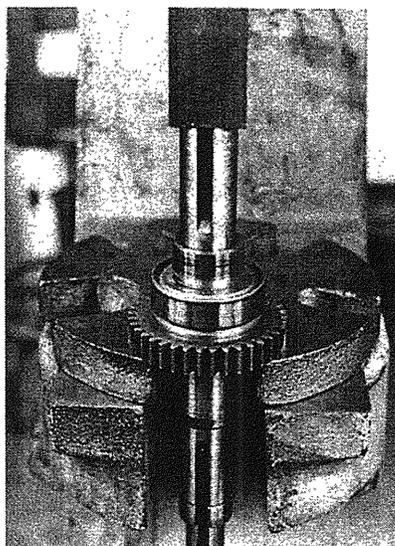
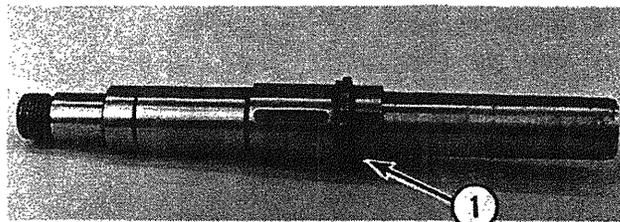

Fig. 3-23
Fig. 3-24
- B. Take the shaft to an arbor press. Apply pressure to the planetary end, and force the shaft through the lower planetary spacer, ball bearing, spacer and gear (Fig. 3-23). The clutch gear bushing will remain on the shaft (1, Fig. 3-24).
- A. If lower clutch gear bushing was removed, use arbor press to replace. Flange goes towards top of shaft (1, Fig. 3-24).